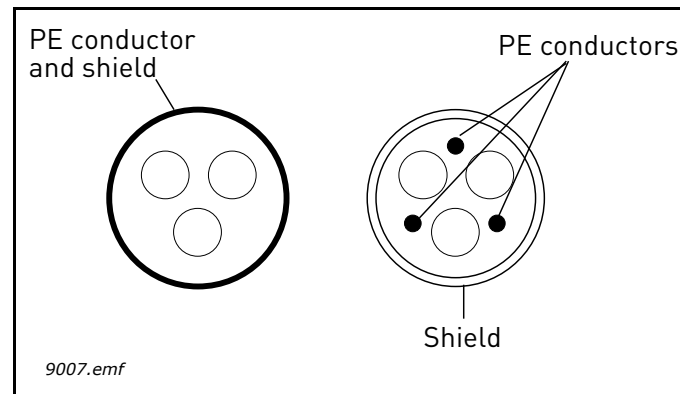

Figure 13.
2 = Symmetrical power cable equipped with concentric protection wire and intended for the specific mains voltage. (MCMK or similar recommended). See Figure 13.
- 3 = Symmetrical power cable equipped with compact low-impedance shield and intended for the specific mains voltage. [MCCMK, EMC MK or similar recommended; Recommended cable transfer impedance (1...30MHz) max. 100mohm/m]. See Figure 13.